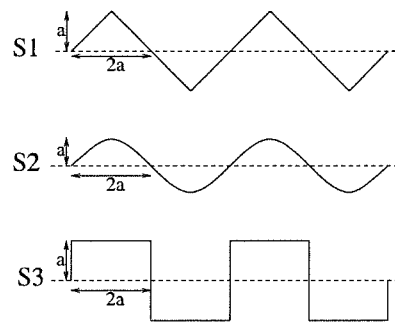

Fig 3: Question 5
5. Evaluate R_a (arithmetic mean roughness) for the three different surfaces shown in Fig. 3 in terms of a . Given that the profile of S2 is sinusoidal. Which of these surfaces is the most preferred for convective heat transfer applications? Give reasons. [10]